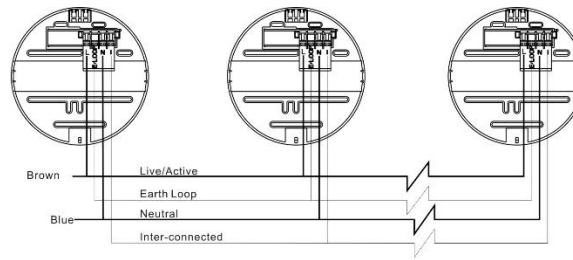

Fig. 5 – Interconnect wiring termination
1. Install the interconnect wiring as shown in Fig. 5.